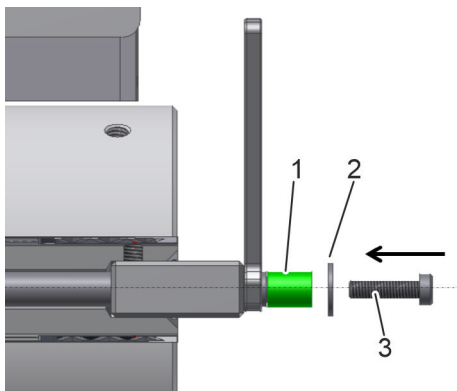

Fig. 19: Cylinder bolt
7. → Screw the M4 cylinder bolt (size 3) (Fig. 19/3) and 4.3 mm washer (Fig. 19/2) onto the measuring rod (Fig. 19/1). Torque 5 Nm.